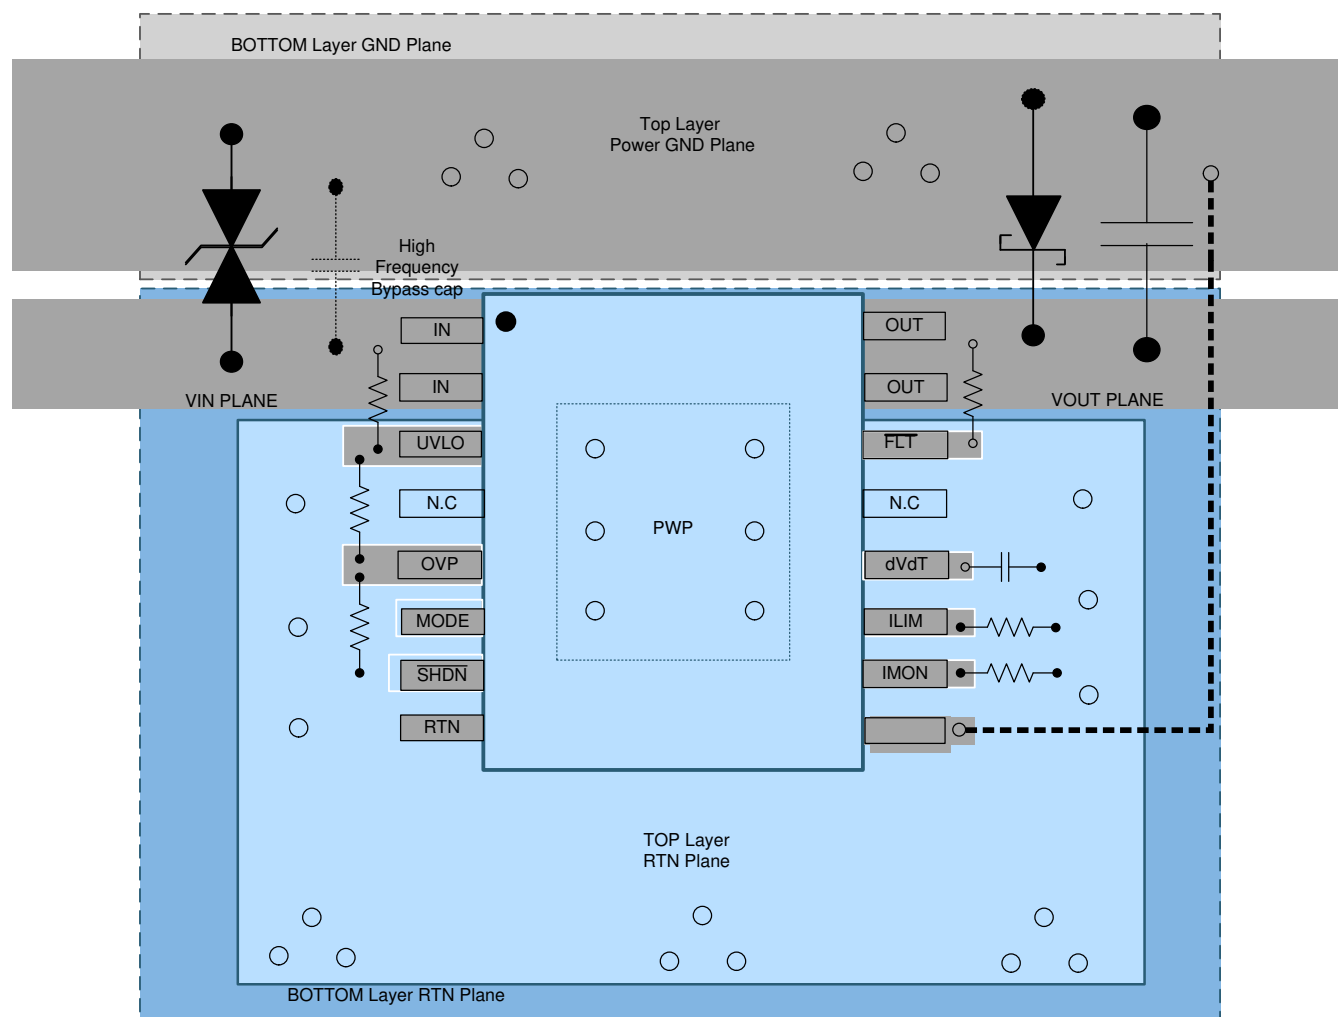

图 49. Typical PCB Layout Example With HTSSOP Package With a 2-Layer PCB
- The optimum placement of decoupling capacitor is closest to the IN and GND terminals of the device. Care must be taken to minimize the loop area formed by the bypass-capacitor connection, the IN terminal, and the GND terminal of the device. See Figure 49 for PCB layout example with HTSSOP package.